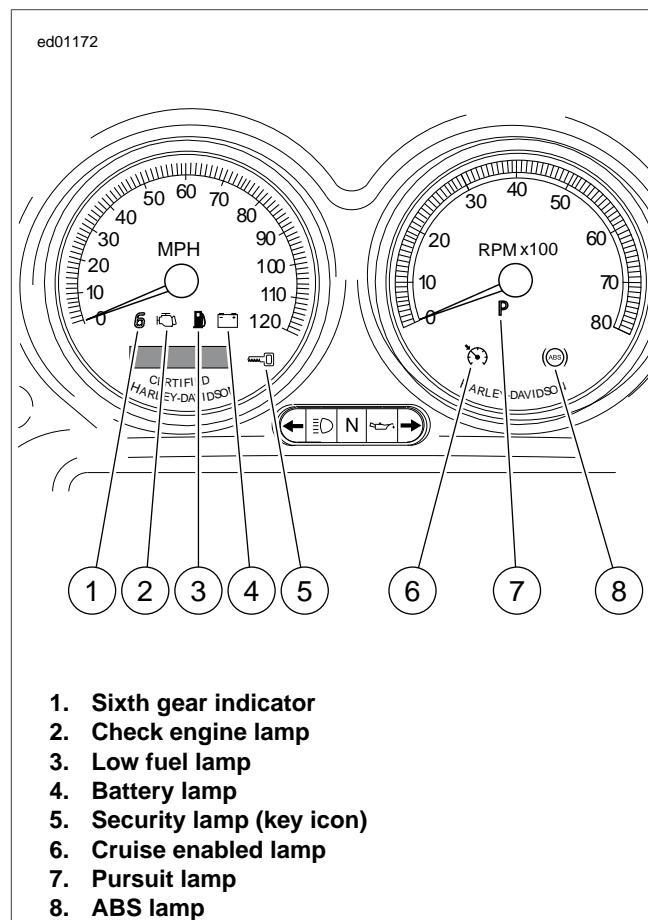

Figure 3-12. Icons (Typical)
- For a quick check of speedometer function, a "WOW" test can be performed. Press and hold trip odometer reset switch then turn ignition switch to IGNITION. See Figure 3-13. Release trip odometer reset switch. See Figure 3-12. Background lighting should illuminate, gauge needles should sweep their full range of motion, and indicator lamps (battery, security, low fuel, check engine, ABS, cruise, pursuit, and sixth gear indicator) should illuminate. All lamps should illuminate, even those not used in normal vehicle operation.